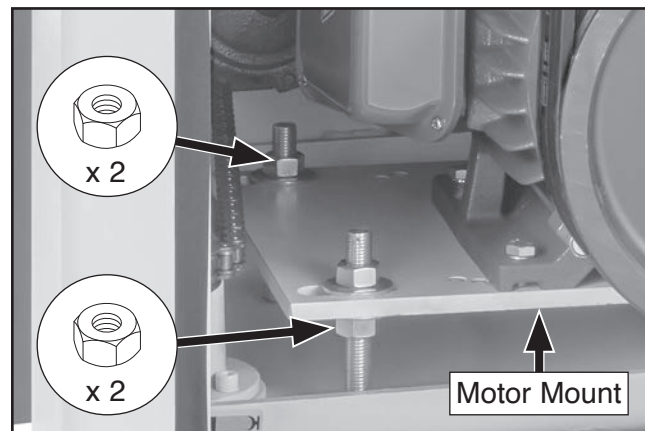

Figure 77. Location of motor mount nuts.
3. Loosen (2) hex nuts on top of motor mount, then rotate (2) bottom nuts counter-clockwise to release belt tension (see **Figure 77**).